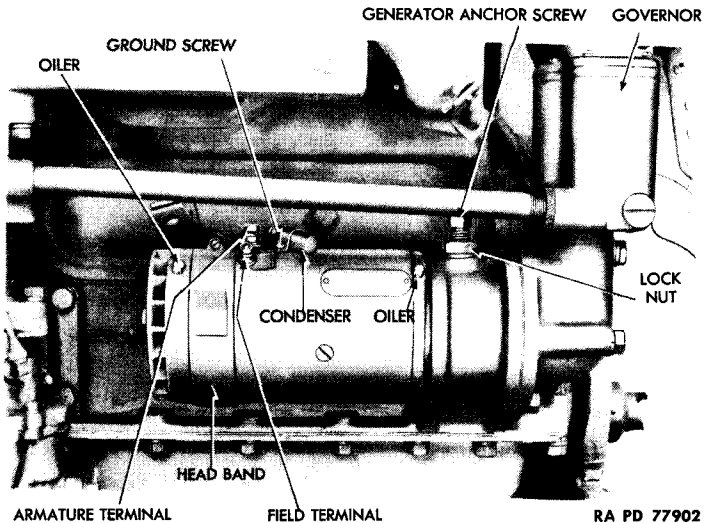
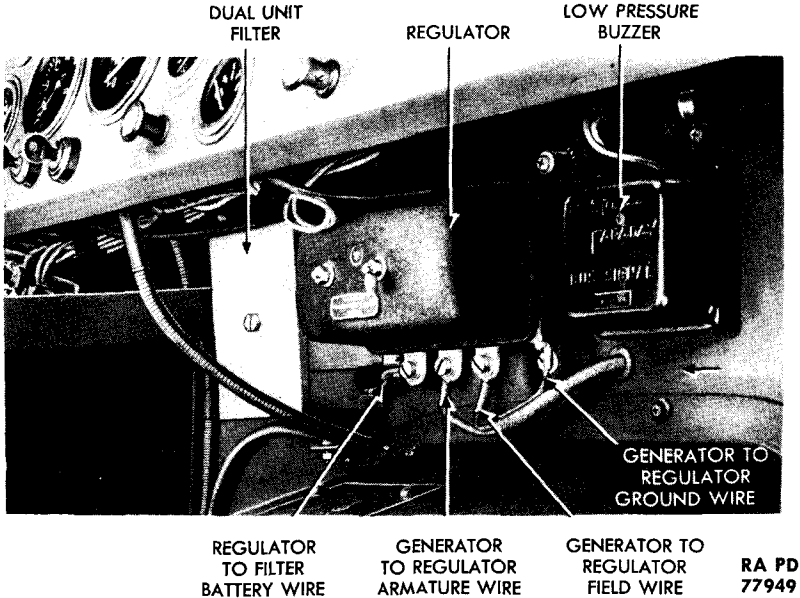

Figure 48 — Generator Installed
Figure 49 — Generator Regulator Installed
(1) **DESCRIPTION** (fig. 48). The heavy-duty two-brush type 6-volt generator is located at the right front of the engine between engine and frame side rail. It is accessible through the splash shield opening under the right front fender, and is gear driven from the engine gear case. The generator furnishes electrical energy to keep batteries charged, and to operate the electrical system.
(1) INSPECT GENERATOR. Remove generator head band (fig. 48). Note condition of commutator. If dirty or discolored, clean commutator (step (2) below). If commutator is rough, out of round, or if it has high mica, notify higher authority. Hook a spring scale to brush holder lever, pull scale at right angles to holder, and note reading as holder lifts from brush. If not within the limits of 64 to 68 ounces, notify higher authority. Inspect brushes, and if worn to one-half the original length, replace brushes (step (3) below). Check brush lead connections to be sure they are clean and tight. Replace head band.
(2) CLEAN COMMUTATOR. Remove head band. Hold a piece of flint paper 2/0 against commutator and crank engine. Blow dust from generator with dry air blast. Replace head band.
(3) REPLACE BRUSHES. Remove head band, screw, and lock washer which secures brush lead to brush holder. Lift up on brush holder lever, and pull brush from holder. Raise lever, and insert new brush into position in holder. Connect brush lead to holder with lock washer and screw provided for the purpose; then draw a strip of flint
(3) **DETACH GENERATOR** (fig. 48). Loosen lock nut and generator anchor screw, and work generator back carefully until gears are out of mesh. Lift generator from engine.
(2) **ATTACH GENERATOR TO ENGINE** (fig. 48). Insert generator into engine opening, and carefully work gear into mesh with camshaft and governor gears. Tighten anchor screw and lock nut.
(4) **POLARIZE GENERATOR**. Momentarily connect a jumper wire between armature terminals of generator (fig. 48), and voltage regulator (fig. 49), then remove jumper wire.
(1) **DESCRIPTION** (fig. 49). The generator current and voltage regulator is mounted in driver's compartment on dash under center of instrument panel, and is composed of three units: Circuit breaker, current limiting regulator, and voltage regulator.
(1) **DISCONNECT WIRES** (fig. 49). Disconnect all four wires from regulator terminals. *NOTE: Tag wires to facilitate installation.*
(2) **DETACH REGULATOR FROM DASH** (fig. 49). Remove the two screws, lock washers, and bonding washers which attach top corners of regulator to dash. Have one man work through radiator filler door to keep nuts from turning, while another man removes bolts which attach bottom corners of regulator to dash. Remove lock washers, and lift regulator from dash.
(1) **ATTACH REGULATOR TO DASH** (fig. 49). Position regulator on dash with terminals down. Install bonding washers between regulator and dash, lock washers, and screws which attach upper corners of regulator to dash. Insert bolts which attach lower corners of unit to dash through regulator and dash. Hold bolts rigid while another
(2) **CONNECT WIRES** (fig. 49). Connect wires to regulator as follows: Blue wire from generator armature terminal to armature terminal, yellow wire from generator field terminal to field terminal, green wire from supply filter to battery terminal, black wire from generator ground screw to ground terminal.